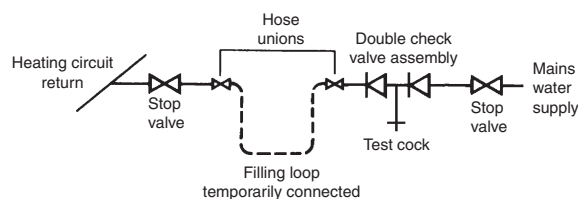

Fig. 4.6
4.7 FILLING THE CENTRAL HEATING SYSTEM - Fig. 4.6
Provision must be made for filling the system. This is done by the use of a filling loop. See Fig. 4.6. A filling loop is not supplied with this boiler.
Filling of the system must be carried out in a manner approved by the local Water Undertaking. Where allowed, the system may be filled via a temporary connection as shown in Fig. 4.6. After filling, always disconnect the flexible hose of the filling loop.